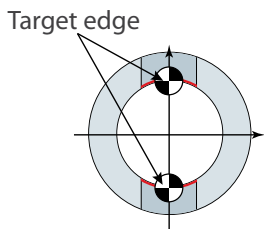

figure 1
- Path data is provided by the set as shown in figure 1 -3